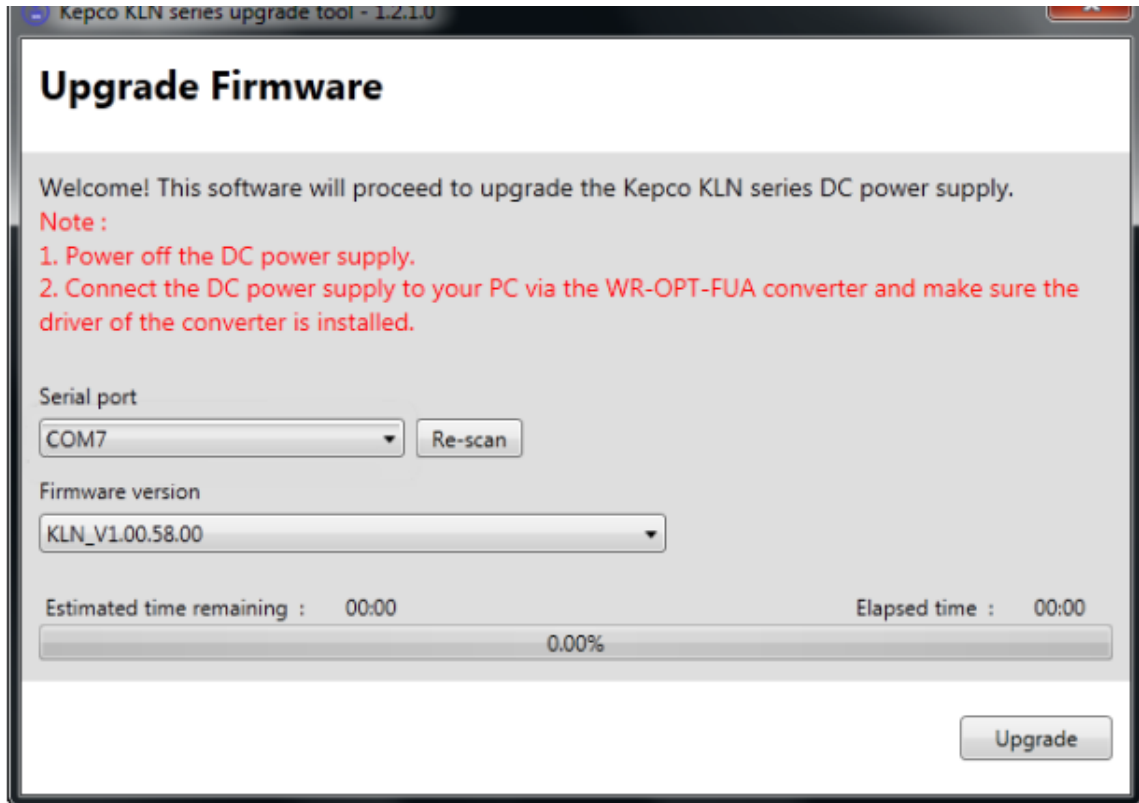

FIGURE 1. WELCOME SCREEN
1. At the computer, run the executable KLN Series Upgrade file obtained from Kepco by double-clicking it. The Welcome screen shown in Figure 1.
6. Click the **Serial Port** drop-down menu (Figure 1) and select the COM port connected to the WR-OPT-FUA converter. If the COM port is not shown in the drop-down menu, click the **Re-scan** button. Figure 1 shows the converter connected to COM 7.
8. Set the KLN power switch to off (O), wait four (4) seconds and then restart the unit. When powered up, the KLN display and all indicator lights are not lit.